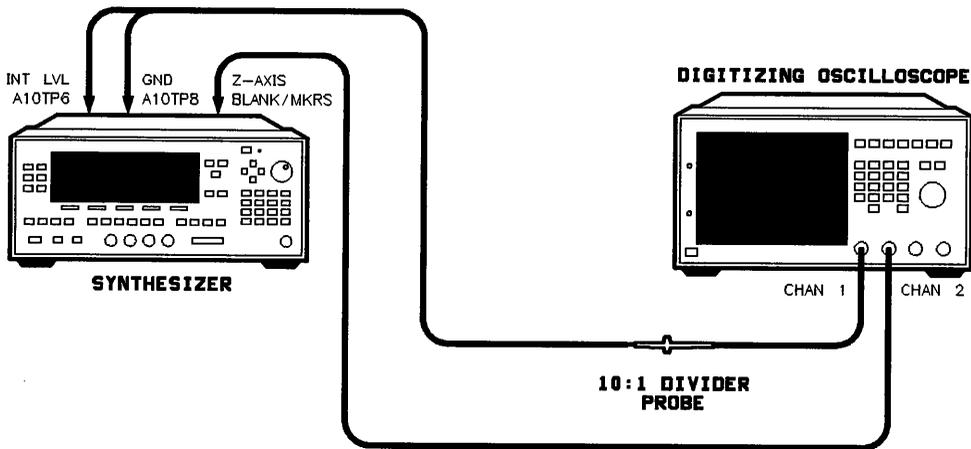

Figure 3-23. Modulator Offset and Gain Adjustment Setup
1. For HP 8360 B-Series only, connect the equipment as shown in Figure 3-23. Preset the instruments and let them warm up for at least one hour. For HP 8360 L-Series, start this test at step 2.
Select **Modify Cal**. Use the numeric keypad to enter the corresponding default value in Figure 3-23. Terminate your entry with the **ENTER** key.
7. Connect the oscilloscope as shown in Figure 3-23.